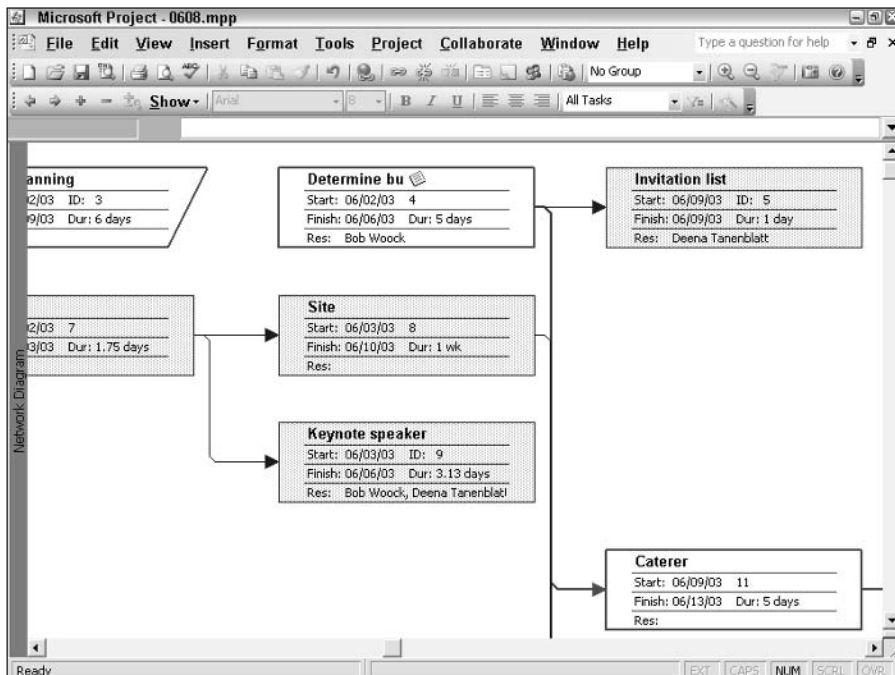

Figure 6-16: Add information to a cell of the Network Diagram node.
4. In the Data Template Definition dialog box, shown in Figure 6-16, click in the cell where you want either indicators or a custom field to appear. Project adds a list box indicator to the cell, thus enabling you to open the list and select the information that you want to appear in that cell of the node. In Figure 6-16, I'm adding the Indicators field to the nodes.